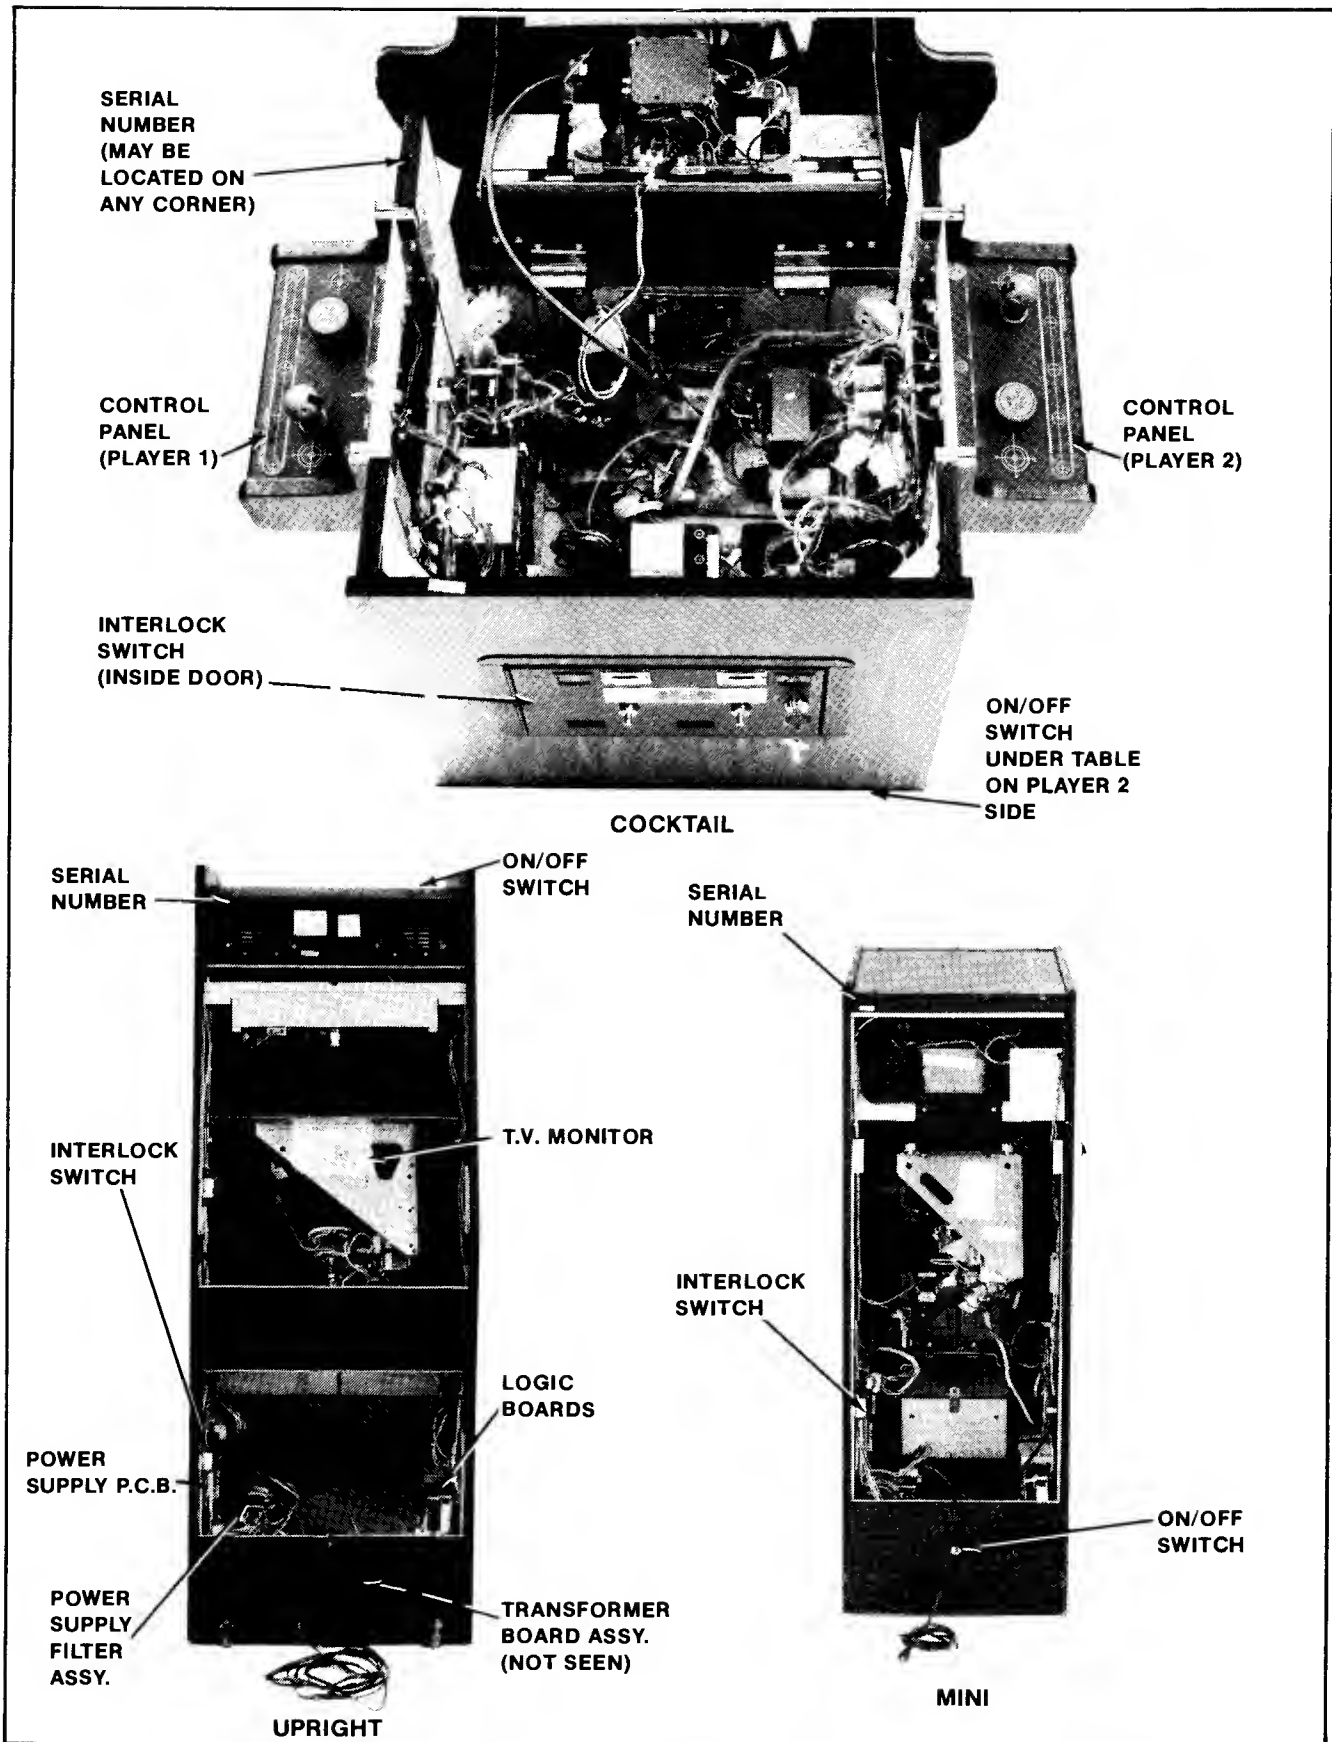

Figure 2-1 Location of Serial No., Interlock Switch, On/Off Switch, & Major Sub-Assys.
5. Open the cabinet and inspect the inside of the game for any signs of damage. See Figure 2-1.
- ☐ Make sure all printed circuit boards (P.C.B.'s) are firmly seated in their connectors. See Figure 2-1. These connectors are also keyed. The P.C.B.'s will only go into them one way without being damaged.
- ☐ Note the location of the games' serial number. See Figure 2-1.
- ☐ Check all major subassemblies to be sure they are mounted securely. These are called out in Figures 2-1 and 2-2.
3. Interlock and power ON/OFF switches. See Figure 2-1.
The game ON/OFF switches for all models are located as shown in Figure 2-1. Turn the game on and allow it to warm up a few minutes.